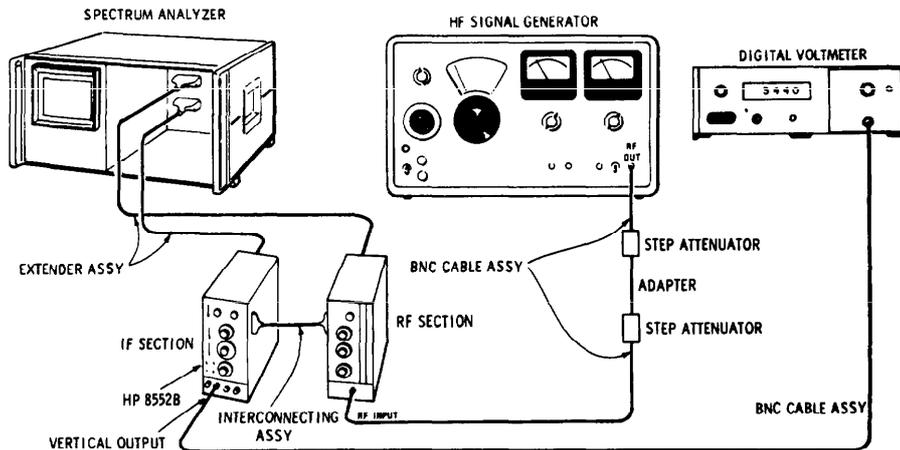

Figure 5-9. 3 MHz IF Gain Adjustment Test Setup
1. Remove the cover shield from the AI LC Filter Assembly, connect the test setup shown in Figure 5-9 and make the following control settings: